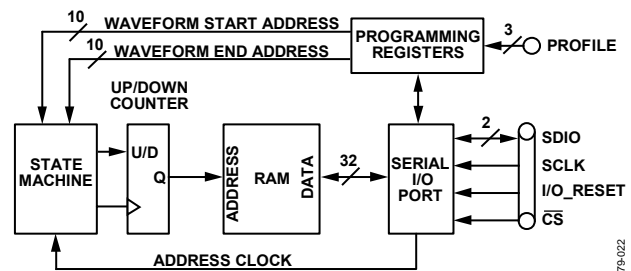

Figure 41. RAM Data Load/Retrieve Operation
3. Write (or read) the address range specified by the selected RAM profile via the serial port (see the Serial Programming section for details). Figure 41 is a block diagram showing the functional components used for RAM data load/retrieve operation.